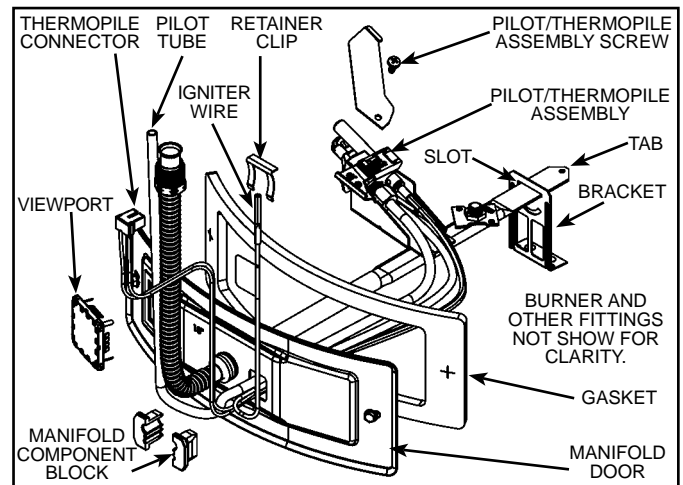
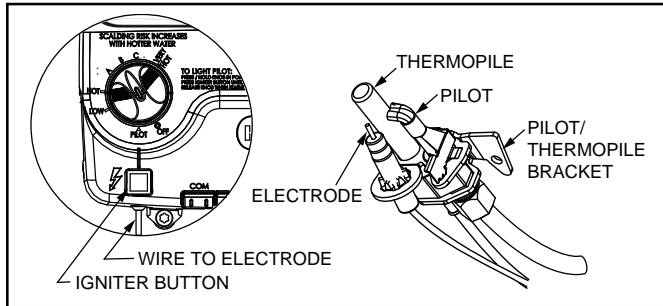

Figure 36
Figure 39
- Remove the screw securing the pilot/thermopile assembly to the pilot bracket and keep for reuse later (see Figure 36 & Figure 39).
- Lift the retainer clip straight up from the back of the manifold component block (using a flat-blade screwdriver), then remove the manifold component block from the manifold door (see Figure 36).
- Route the new pilot tube, igniter wire and thermopile wires through the opening in the manifold door (see Figure 36).
1. Check the door gasket for damage or imbedded debris prior to installation (see Figure 36).
2. Inspect the viewport for damage and replace as required (see Figure 36).
3. Insert the new manifold/burner assembly into the burner compartment, making sure that the tab of the manifold tube engages the slot of the bracket inside the combustion chamber (see Figure 36).
4. Inspect the door gasket and make sure there is no fiberglass insulation between the gasket and the combustion chamber (see Figure 36).
The piezoelectric igniter system consists of the igniter button, electrode, and wire. The pilot is ignited by an electric spark generated when the igniter button is pressed (see Figure 39).